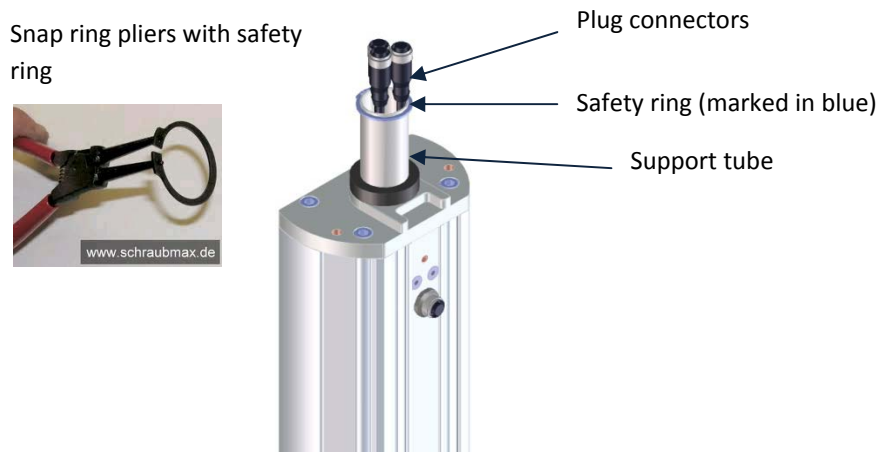

Figure 11: Support tube with 3 protruding plug connectors
a) First, the safety ring of the support tube (see figure 11) is removed with the snap ring pliers.
e) Now the 3 connector plugs protruding from the bracket arm are drawn a short way out of the aluminium rail and connected to the 3 connector plugs in the support tube (figures 11 and 12). Please ensure that the colours match on the respective plugs.